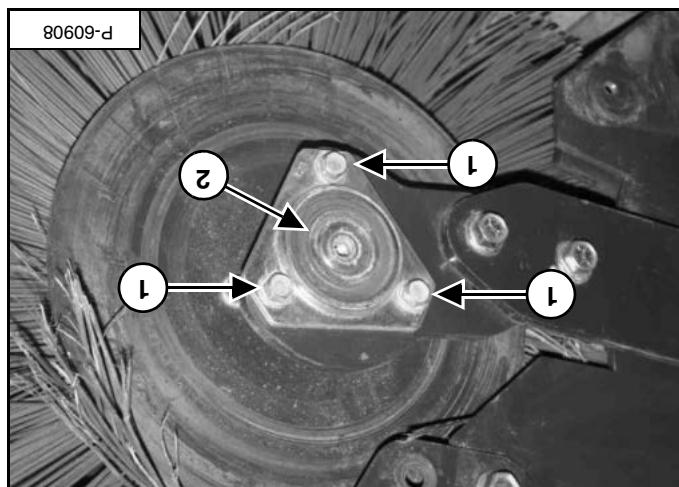

Figure 110
Remove the three bolts (item 1). Remove the bearing assembly (item 2) [Figure 110].